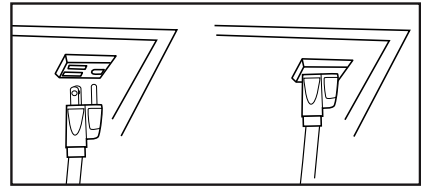

FIGURE 4
7. Insert the internal plug into the socket (see figure 4, on page 4).